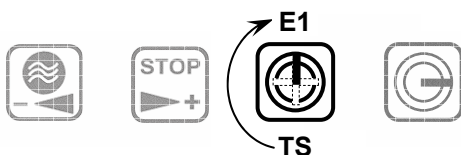

Fig 4.7 D The key is in Position E1.
5. When you have finished making the entry, turn the key back to position E1 (cf. Fig. 4.7 D). The following must appear in the display: